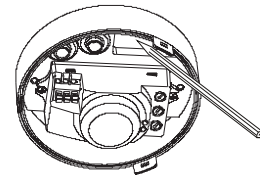

fig.3
2. Hold base against the Ceiling and mark drill holes, paying attention to any existing wiring in the Ceiling(fig.3);